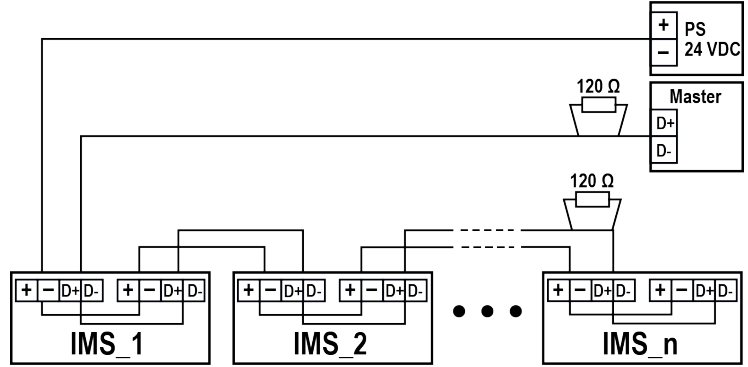

Fig. 8 – Bus topology diagram
3. Connect the conductors to the screwless terminal block according to the diagram (Figure 8).
Figure 8 illustrates the bus connection of several devices.